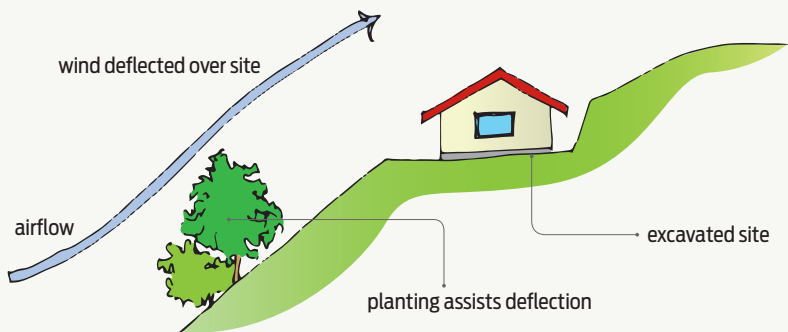

Figure 8 Wind protection by excavating.
- excavating into the slope for the house site (see Figure 8)